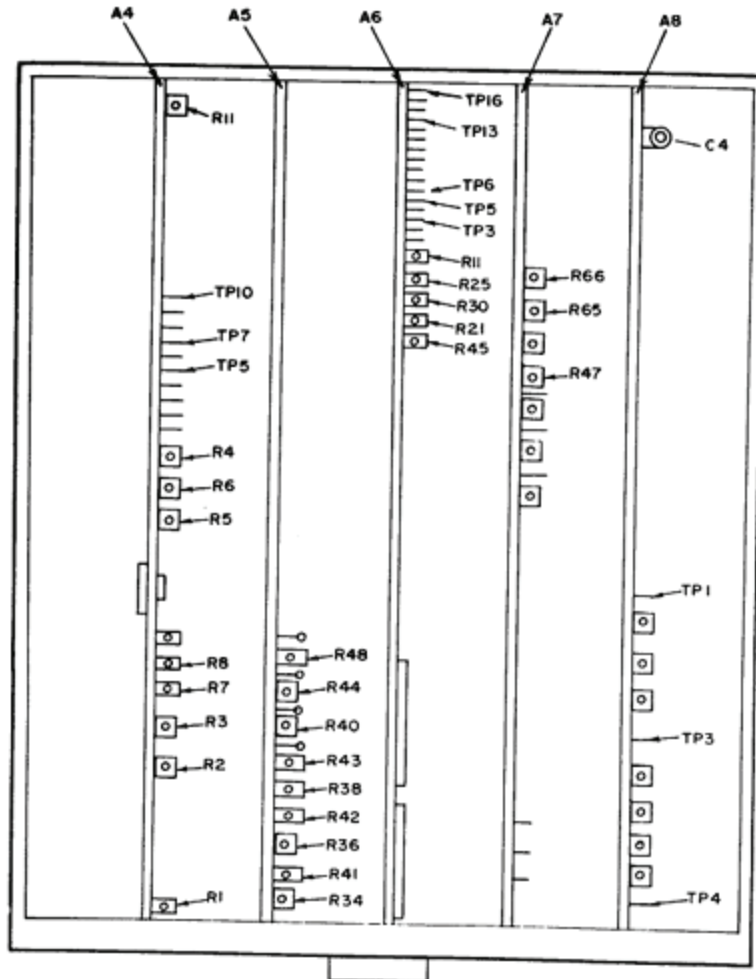

Figure 3. Model 83525A plug-in - adjustment locations.
- (1) Press **INSTR PRESET** and **STOP** keys. Enter data **2 GHz** on keyboard.
- (2) Press TI (plug in) **AMPTD MKR** key (ON). Connect microwave frequency counter to A8TP1 (fig. 3).
- (3) Adjust A8C4 (fig. 3) for microwave frequency counter indication of 50,000,000  $\pm 250$  Hz (R).
(1) Connect multimeter to **A6TP3 (+)** and **A6TP5 (-)** (fig. 3). Adjust **A6R21** (fig. 3) for multimeter indication of  $-10.000 \pm 0.001$  V dc (R).
(2) Connect multimeter to **A6TP13 (+)** and **A6TP16 (-)** (fig. 3).
(3) Press function keys and enter corresponding data on keyboard as listed in (a) through (g) below:
(4) Adjust A6R11 (fig. 3) for multimeter indication of -6.250 V dc. Record multimeter indication.
(5) Press function keys and enter corresponding data on keyboard as listed in (a) through (c) below:
(6) Adjust A6R30 (fig. 3) for a difference of 12.9968 V dc between the value recorded in (4) above and multimeter indication (R).
(7) Press **M2** key and enter data **0 BKSP** on keyboard. Adjust A6R25 (fig. 3) for multimeter indication of -12.6218 V dc (R).
(8) Press function keys and enter corresponding data on keyboard as listed in (a) through (c) below:
(9) Adjust A6R11 (fig. 3) for multimeter indication of -19.5000 V dc.
(10) Press **INSTR PRESET** key and repeat (3) through (9) above until no adjustment is necessary.
(11) Ensure TI **SWEEP OUTPUT** is connected to oscilloscope **CH2** input.
(12) Connect oscilloscope **CH1** input to A6TP6 (fig. 3). Set oscilloscope for an X verses Y function operation.
(13) Press function keys and enter corresponding data on keyboard as listed in (a) through (d) below:
(14) Adjust oscilloscope controls as necessary to view TI M1 marker and band switch point (break in trace).
(15) Adjust A6R45 (fig. 3) to align the band switch point with M1 marker as indicated on oscilloscope display (R).
(16) Connect multimeter to A6TP6 (fig. 3) and chassis ground.
(17) Press **INSTR PRESET** and **CW** keys. Record multimeter indication.
(18) Press **CF** and **ΔF** keys. Enter data **0 MHz** on keyboard and adjust A7R47 (fig. 3) for multimeter indication equal to value recorded in (17) above (R).
(19) Disconnect multimeter from TI.
(20) Press function keys and enter corresponding data on keyboard as listed in (a) through (o) below:
- (g) **RF BLANK (ON)**.
(21) Adjust oscilloscope controls as necessary to view TI M1 marker.
(22) Adjust synthesized signal generator frequency and level controls as necessary to align the birdie on the leading edge of M1 marker as indicated on oscilloscope display.
(23) Press **RECALL** key and enter data **2** on keyboard. Adjust A7R65 (fig. 3) to align leading edge of M1 marker with birdie on oscilloscope display (R).
(24) Press **SWEEP TIME** key and manually vary **SWEEP TIME** from 10 to 200 ms, while readjusting A7R65 for minimum shift of M1 marker (typical shift should be within  $\pm 5$  MHz).
(25) Press **RECALL** key and enter data **3** on keyboard.
(26) Repeat technique of (21) and (22) above for M2 marker.